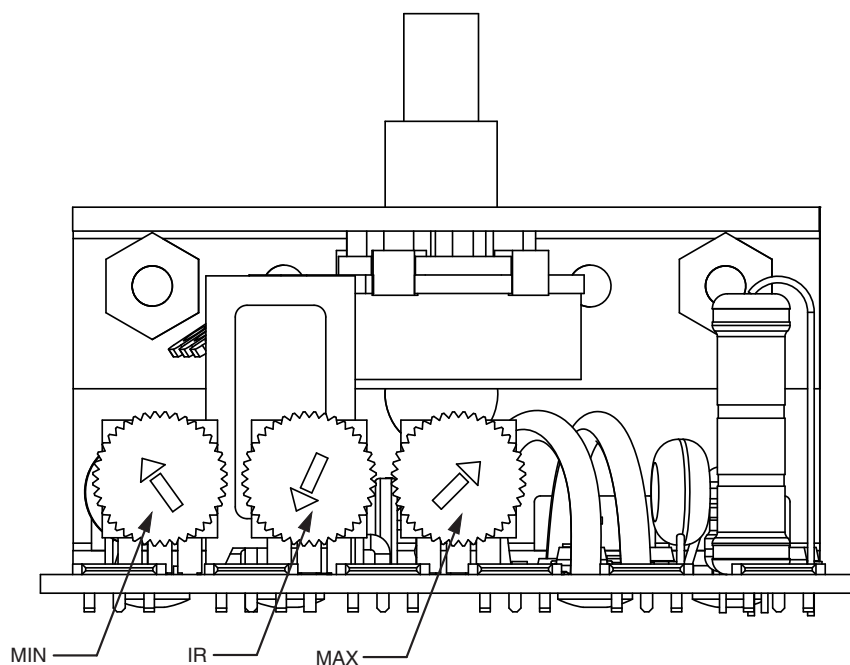

Figure 4 - Control Trimpot Adjustment Location
- d. Using an insulated handle 1/8" blade screwdriver, adjust the MAX trim pot on the control PC board. (See Figure 4 for location.) Clockwise adjustment of the pot increases the maximum output to the motor; counterclockwise adjustment decreases the maximum output to the motor.
- d. Adjust the MIN trim pot on the control PC board. (See Figure 4 for location.) Clockwise adjustment of the pot increases output to the motor; counterclockwise adjustment decreases.